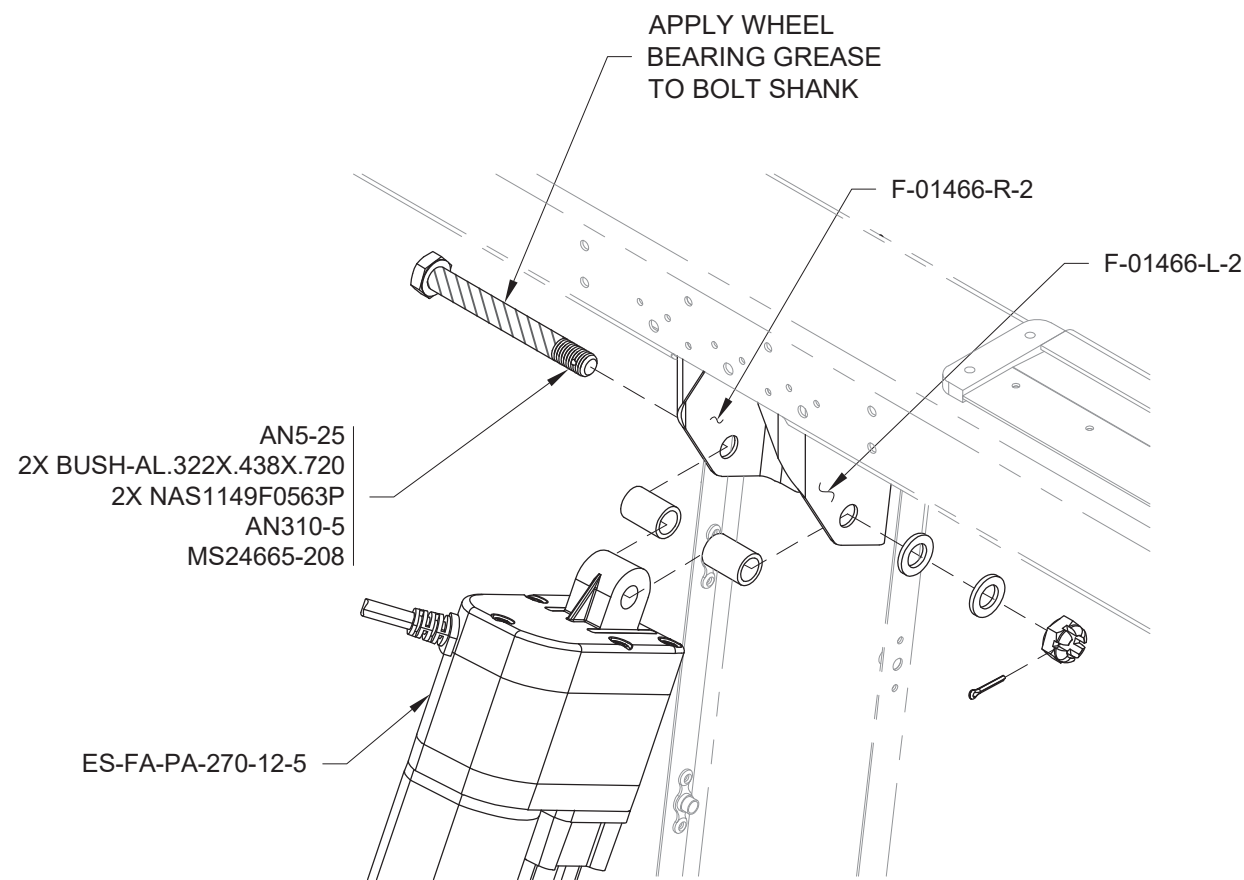

FIGURE 1: INSTALL FLAP MOTOR
Step 1: Apply a small amount of wheel bearing grease to the bolt shank, as shown in Figure 1. Bolt the ES-FA-PA-270-12-5 Flap Motor lug to the F-01466-L-2 & -R-2 Flap Motor Brackets using the hardware called out in Figure 1. Tighten the castle nut just enough to remove end play but not so much as to add friction. Install the cotter pin oriented as shown in Figure 2. Incorrect orientation will result in interference between the cotter pin and the Flap Motor Cover Assembly See Page 42-04, Figure 1.